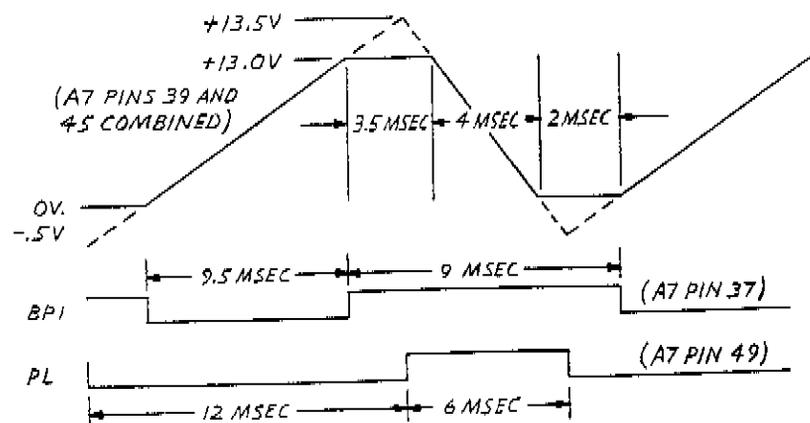

Figure C3-30B. A2A7 Sweep Generator, Timing Diagram
The penlift and blanking circuits generate the blanking pulse (BP1), the penlift (PL), and clamps the voltage ramp out of the Integrator to the desired full sweep voltage range of 0 to $+13V$. U9C operates as a clamp which actuates when the sweep output V SW1 goes above $+13V$. U9D likewise clamps V SW1 to above 0 volts. The outputs of U9C and U9D are "ORed" together with the retrace signal from the output of U14C to provide the blanking function. The inverted retrace command is used as the penlift command. The output signals of U9C and U9D produce the waveforms shown in Figure C3-30B.